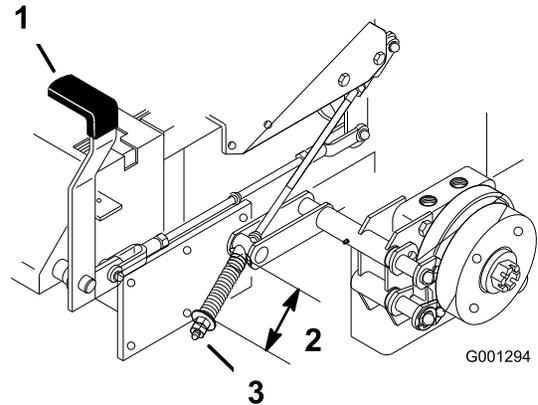

Figure 68
2. Measure the length of the spring (Figure 68).
3. If adjustment is necessary, disengage the parking brake, loosen the jam nut below the spring and adjust the nut directly below the spring (Figure 68).